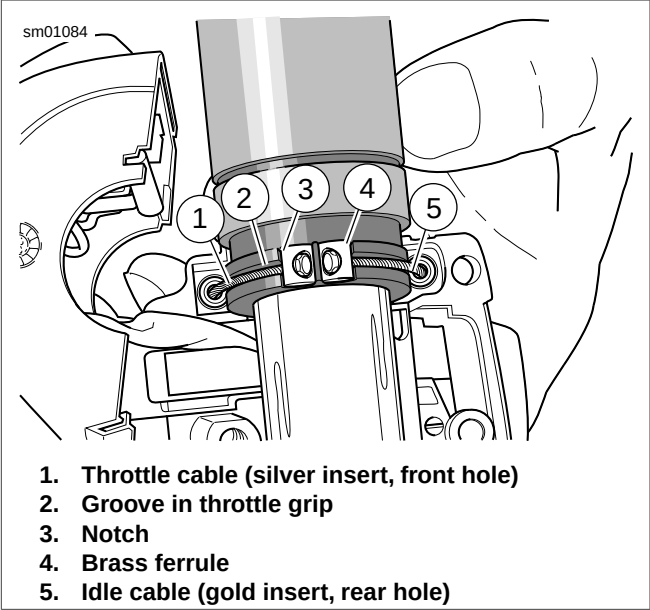

Figure 6-149. Throttle Cable Attachment
5. See Figure 6-149. Position lower switch housing beneath the throttle control grip. Install the brass ferrules (4) onto the cable so that the end fittings seat in the ferrule recess. Seat the ferrules in their respective notches (3) on the throttle control grip. Verify that the cables are captured in the grooves (2) molded into the grip.